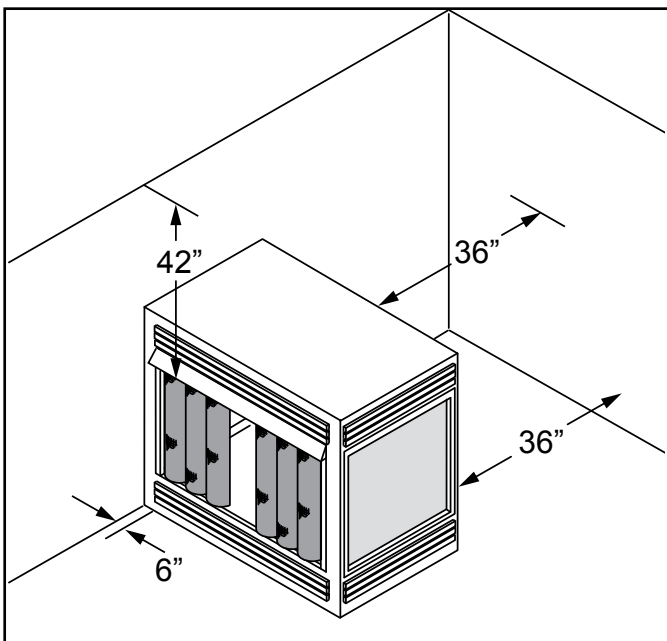

Figure 3.1 - Sidewall and Ceiling Clearances
The dimensions shown in *Figures 3.1 through 3.7* and defined in the fireplace manufacturer's instructions are minimum clearances to maintain when installing this heater. Left and right clearances are determined when facing the front of the heater.
2. If installing unit into a vented firebox with a working damper, minimum clearances shown in *Figures 3.1 through 3.7* must be met